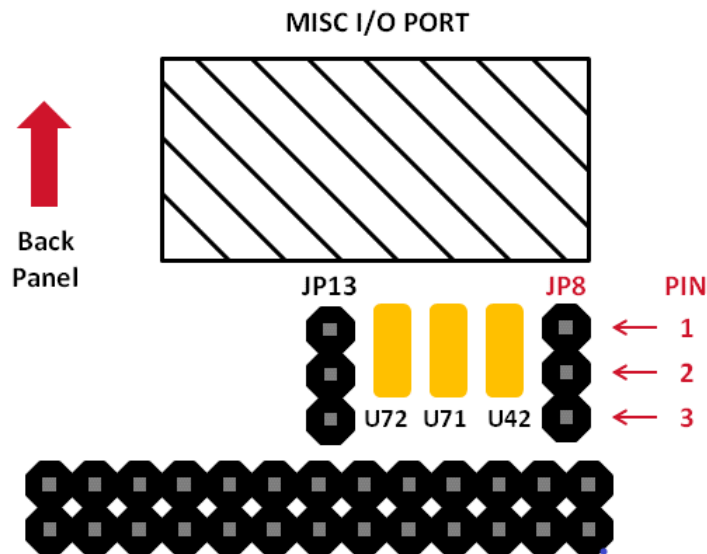

Figure 6. JP8 pin header location
14. Locate the JP8 pin header (see **Figure 6**)